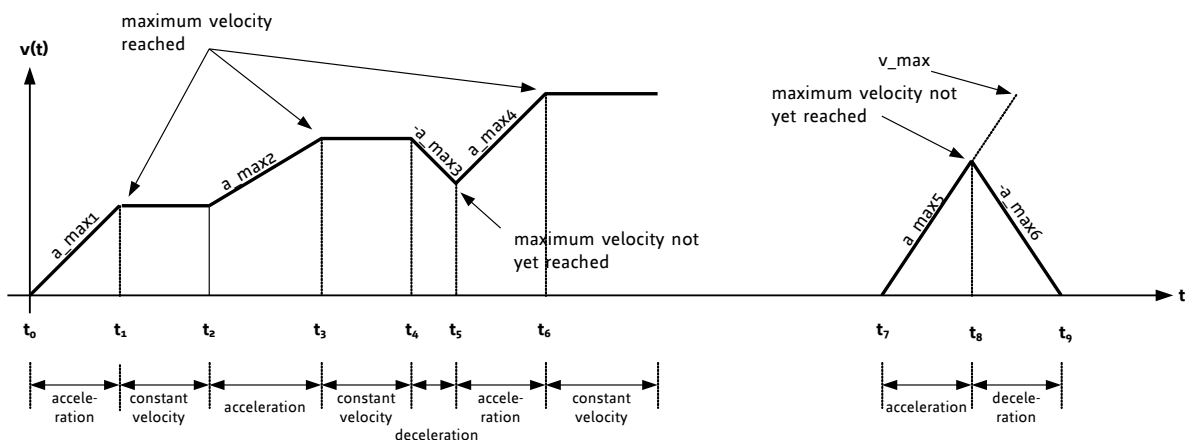

Figure 5.15: Velocity profile in velocity mode
- In **Velocity-Mode** the acceleration and the maximum speed is specified in the TMCM-342. Then the motor accelerates immediately with the specified value to the maximum speed and continues to run at constant speed till new values are sent to the TMCM-342. In Figure 5.15 the motion sequence for the velocity mode is shown as an example. Here the motor accelerates with a_{max} till it reaches the maximum velocity and then continues to run at constant speed with v_{max} till new a_{max} and v_{max} is specified. On the right side and at t_5 the v_{max} is not distinctly reached if a new parameter is prematurely given.